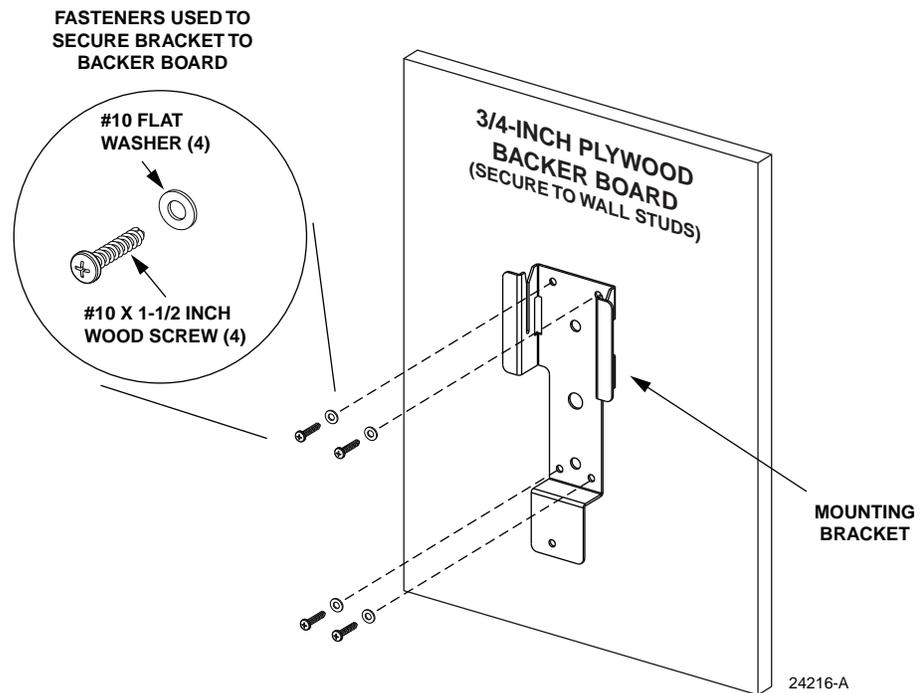

Figure 7. Securing Backer Board to Wall and Installing Mounting Bracket on Backer Board
1. Mount a plywood backer (not provided) on the wall in the location where the cabinet will be mounted as shown in Figure 7. Use whatever tools and fasteners are required to firmly secure the backer to at least two (minimum) of the wall's interior 2x4 studs.
- #10 x 1-1/2-inch wood screws (4)
- #10 flat washers (4)